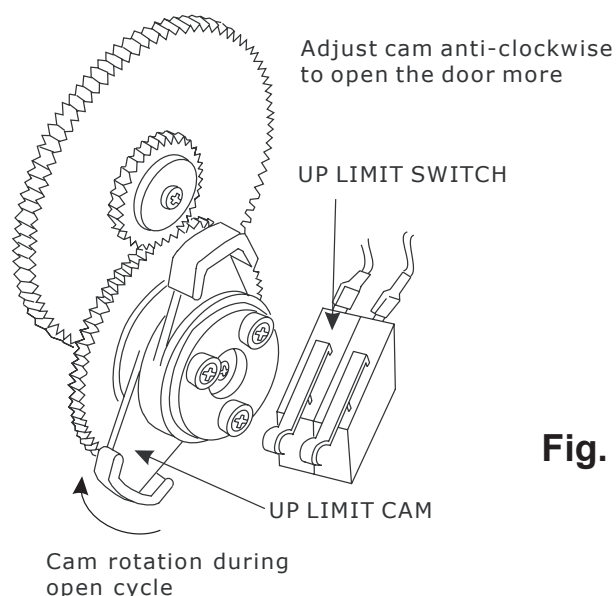

Fig. 10
- 4 Rotate the DOWN LIMIT CAM by hand in an anticlockwise direction (see Fig 10) until the cam clicks the close limit switch.